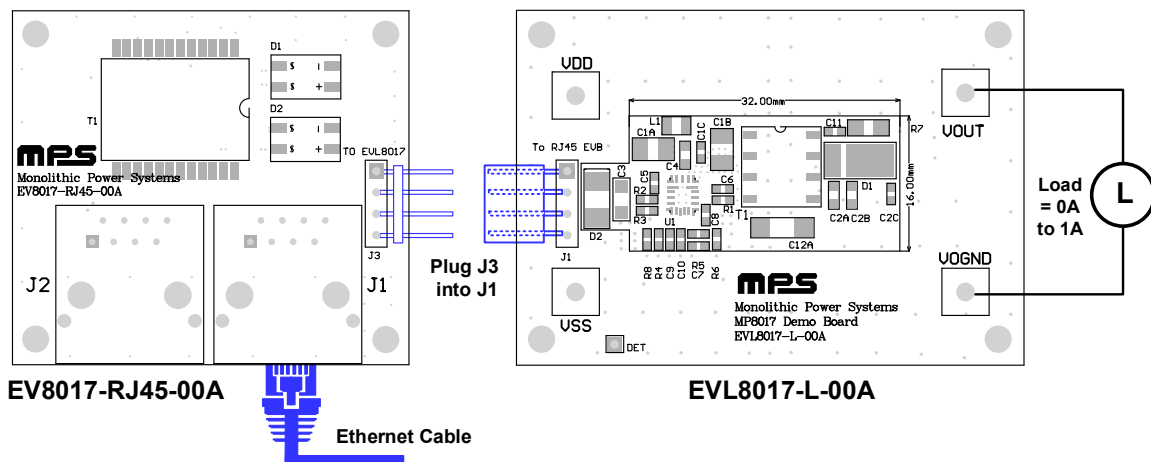

Figure 1: EV8017-RJ45-00A Set-Up Method
The EV8017-RJ45-00A is the RJ45 connection board for the EVL8017. The EV8017-RJ45-00A delivers power over Ethernet (PoE) from the Ethernet cable to the EVL8017 evaluation boards to evaluate the MP8017's performance. To set up the EV8017-RJ45-00A, refer to Figure 1 and follow the steps below:
1. Figure 1 shows the connection method using the EVL8017-L-00A.